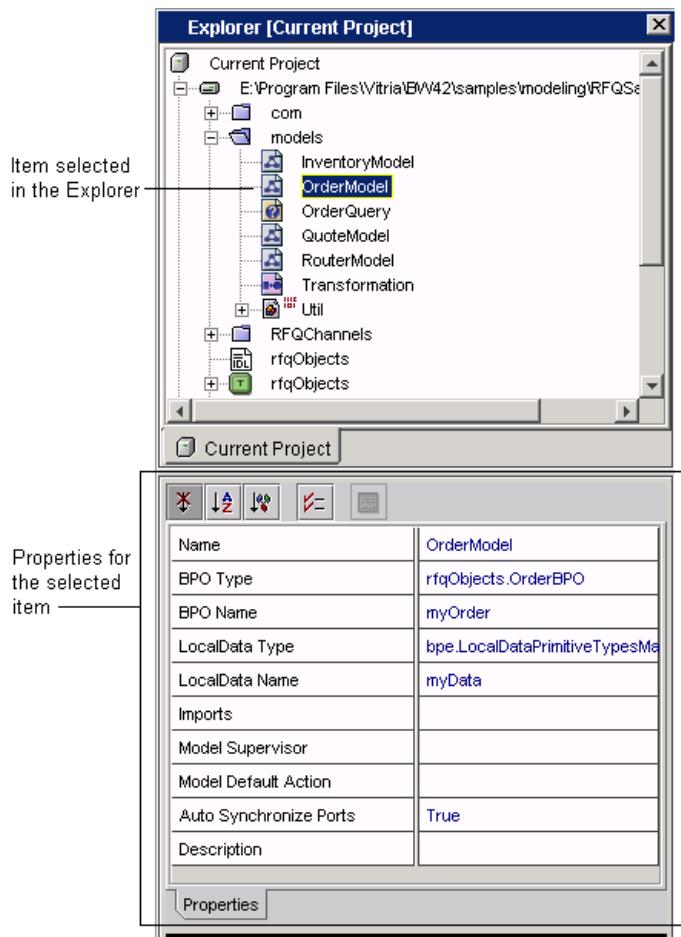

Figure 2-3 Properties Window
- **The “shared” Properties window**—the “shared” Properties window, Figure 2-3, remains open while you work in the BME. As you select different objects, the shared Properties window changes its contents to display the properties for the currently-selected object. Figure 2-3 shows an example of the “shared” Properties window opened to display the properties of a selected process component.